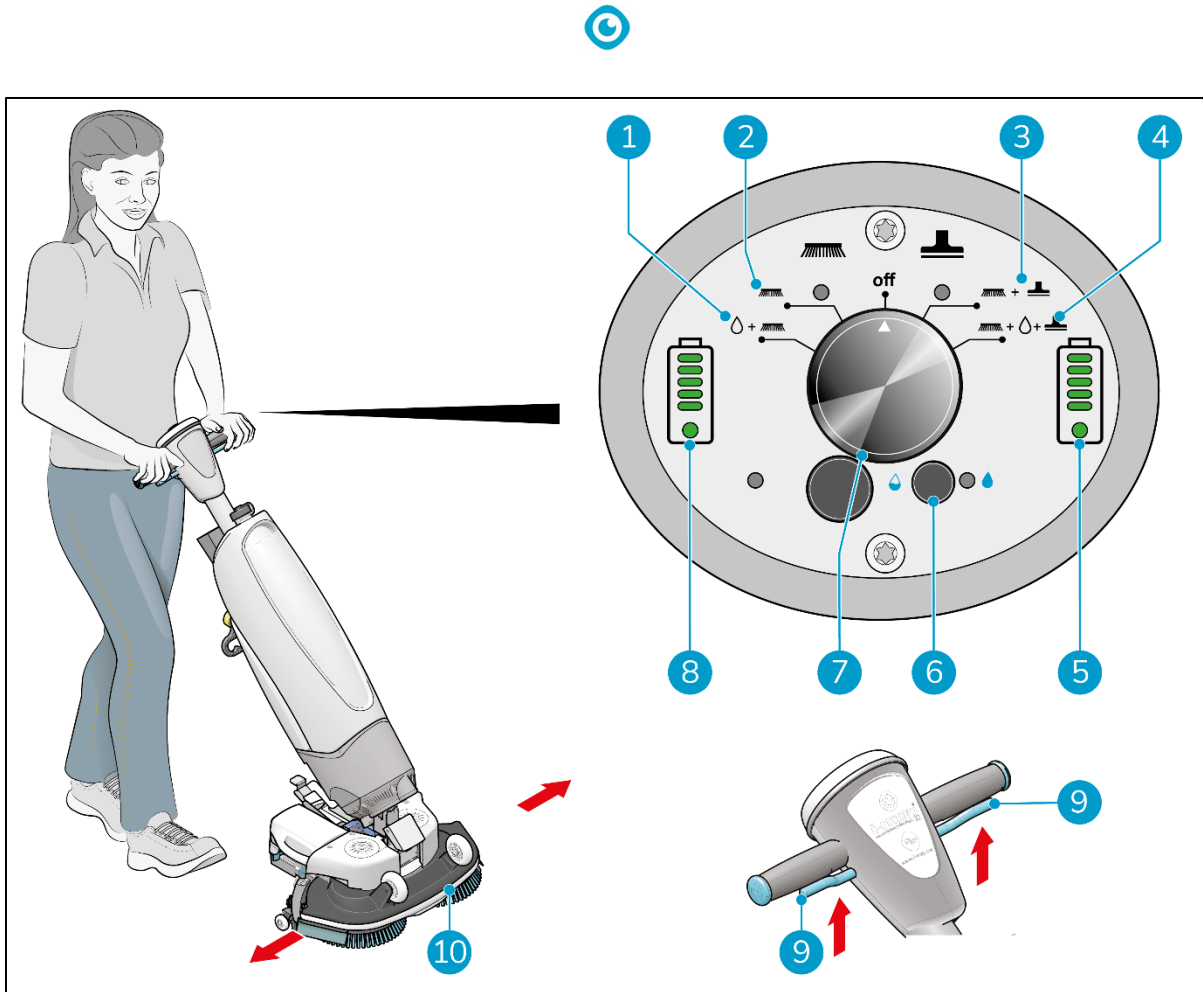

Figure 20
4. Stand behind the i-mop® XXL pro. Choose your cleaning mode via the main switch (Figure 20, pos 7). This will also turn on the i-mop® XXL pro.
- MODE 1: Brush + water/cleaning solution (Figure 20, pos 1).
- MODE 2: Brush only (Figure 20, pos 2).
- MODE 3: Brush + vacuum (Figure 20, pos 3).
- MODE 4: Brush + water/cleaning solution + vacuum (Figure 20, pos 4).
6. Squeeze the trigger on the handle (Figure 20, pos 9).
9. Steer by gently turning the handle left or right to move the scrub deck (Figure 20, pos 10).
10. Releasing the trigger (Figure 20, pos 9) will immediately stop the i-mop XXL pro. The vacuum motor will stop after 3 seconds.